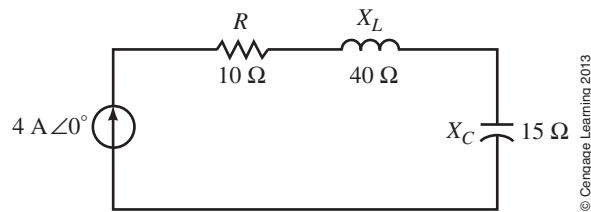

FIGURE 17-41
11. Find the total average power and the total reactive power supplied by the source for Figure 17-41.
12. If the source of Figure 17-41 is reversed, what is P_T and Q_T ? What conclusion can you draw from this?